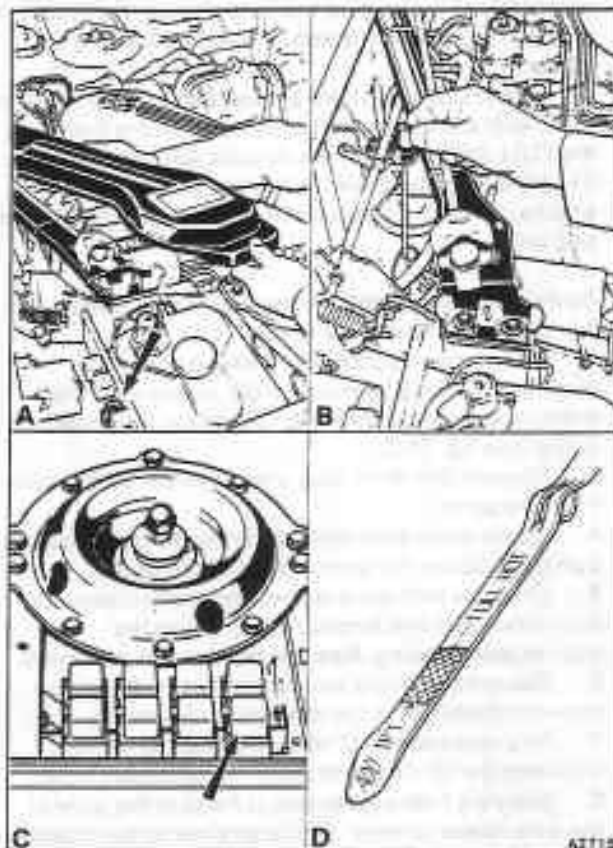

Fig. T3-1 Transmission filler tube and dipstick
Ensure that the windscreen wiper control switch situated on the facia is in the off position. Remove a windscreen wiper relay, preferably number three (see fig. T3-1). To remove the relay pull it vertically from its mounting.
9. With the transmission fluid at normal operating temperature the level of the fluid should be within the cross hatched area marked on the dipstick (see fig. T3-1).